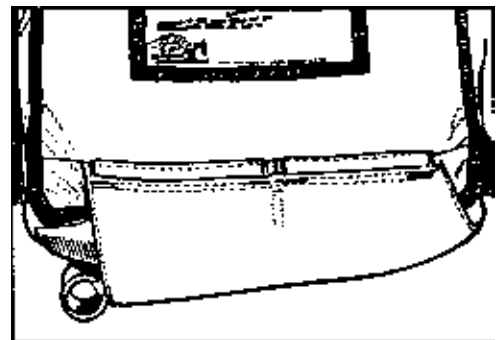

Figure 9
Step 8 Close the inside tongue of the T.O.P. cover and check the pilotchute handle position. *Figure 9*